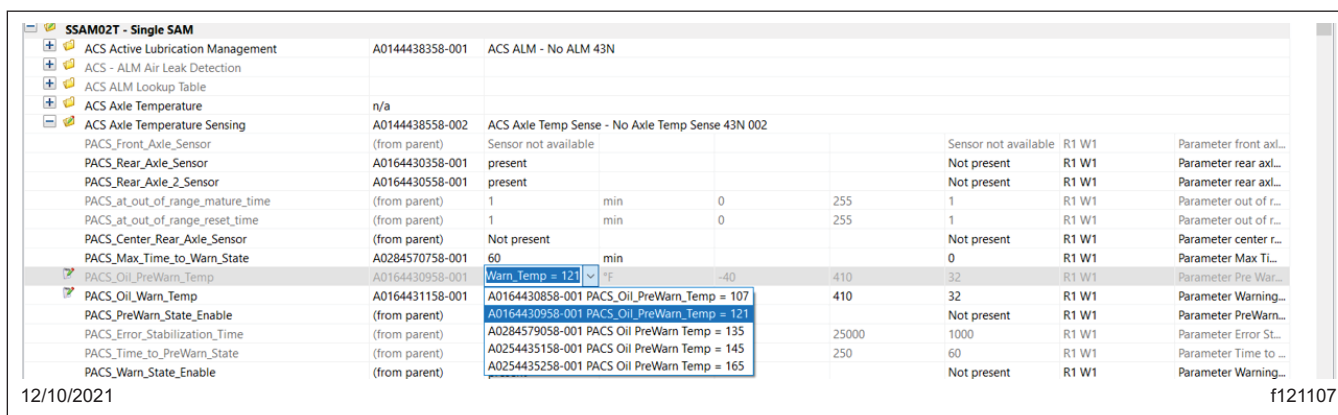

Fig. 17, Parameters Screen Pt. 1
- In the list of parameters, locate 'PACS_Oil_PreWarn_Temp.' Expand the drop-down menu in the 'Value' column. Select the value, '0164430958-001 PACS_OIL_PREWARN_TEMP = 121' as shown in Fig. 17.